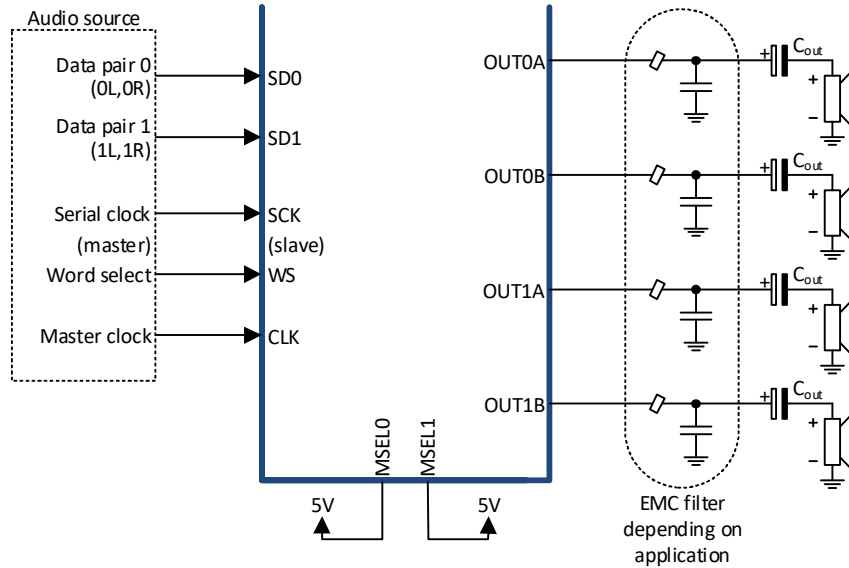

Figure 9-2 Four channel, single ended (SE) configuration
In single ended (SE) configuration, the MA12040P is able to drive one loudspeaker per output power stage, i.e. up to four loudspeakers. The output is biased to half the power supply voltage,  $\frac{1}{2}$  PVDD. One of the solutions to drive a speaker in this configuration is to use AC-coupling capacitors ( $C_{out}$ ) in series with the load, as shown in Figure 9-2. The value of the capacitors depends on the load resistance and the desired audio bandwidth.